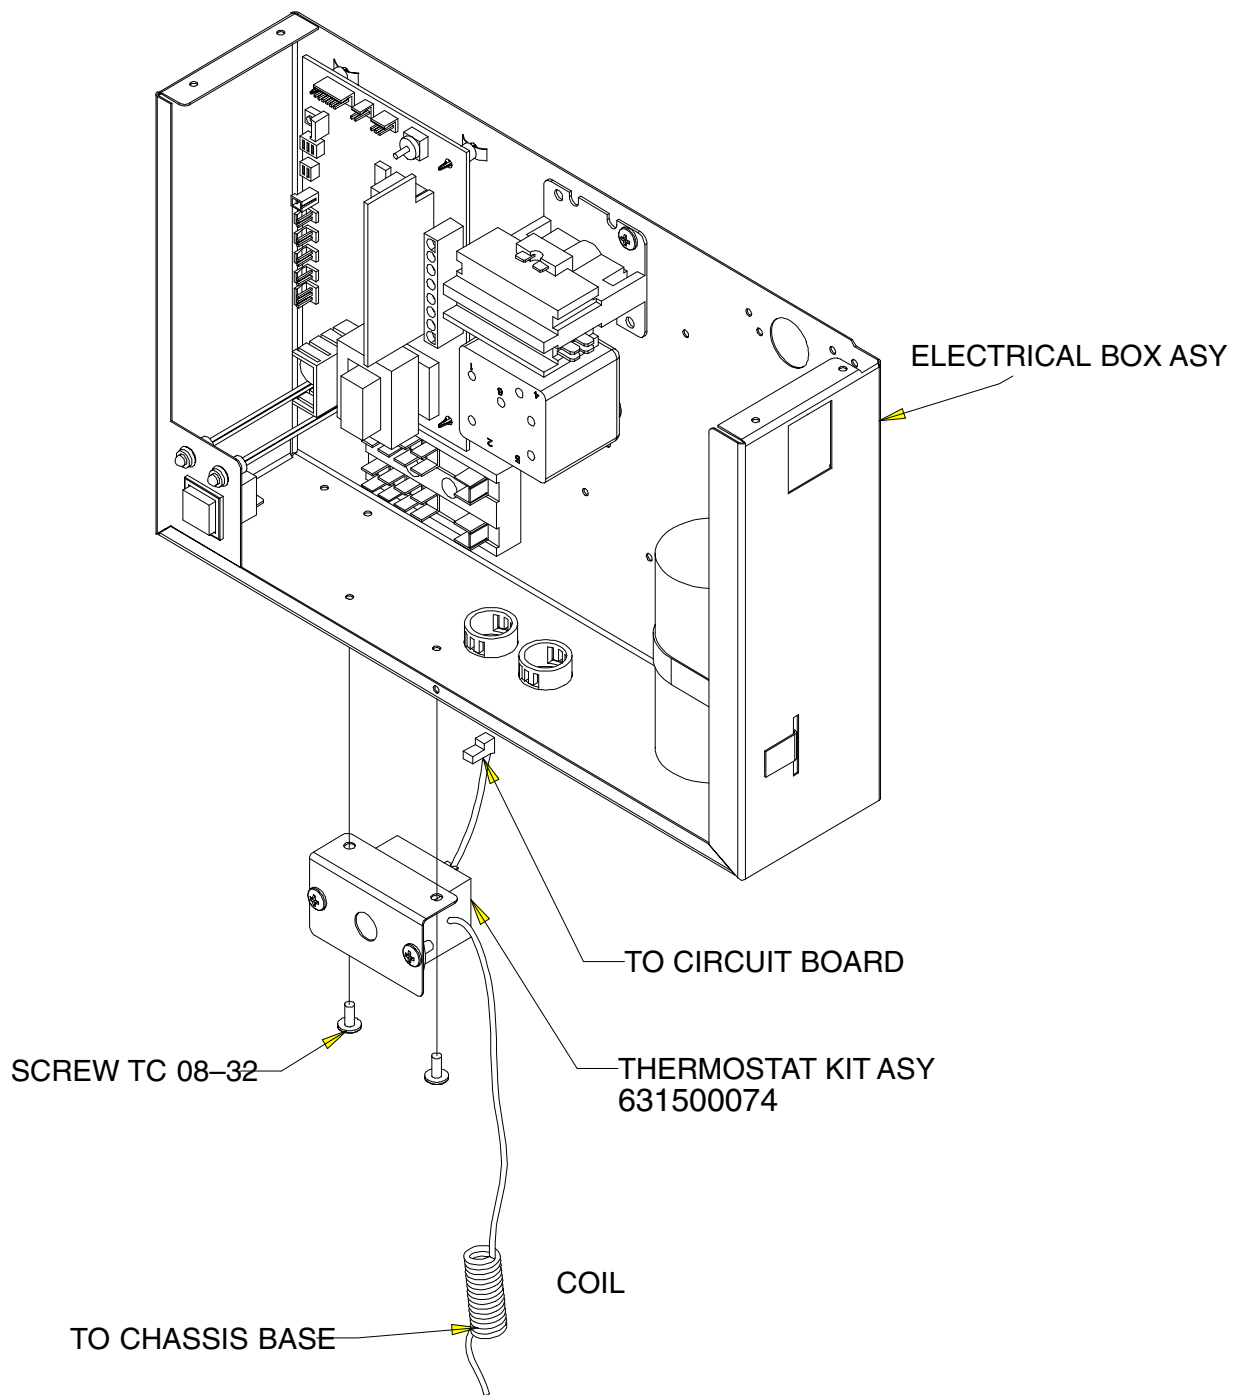

FIGURE 18
- A. Route wires and connector through grommet in electrical box (see Figure 18).
- B. Attach bin thermostat to electrical box with two 08–32 TC screws provided (see Figure 18).